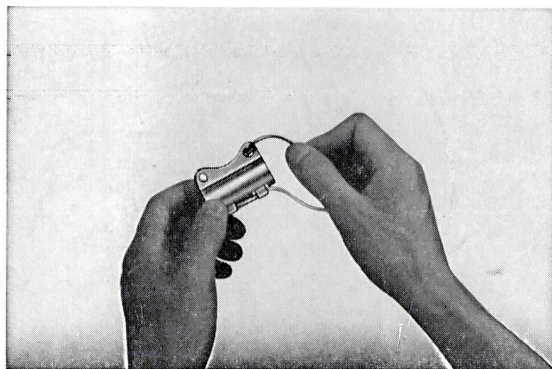

Fig. 5.97 Short-circuiting upon completion of condenser insulation resistance measuring
- a. Upon completion of measurement, the condenser terminal should be shortcircuited to discharge the charge accumulated in the condenser. If not, a shock may be expected to the touch. (Fig. 5.97)